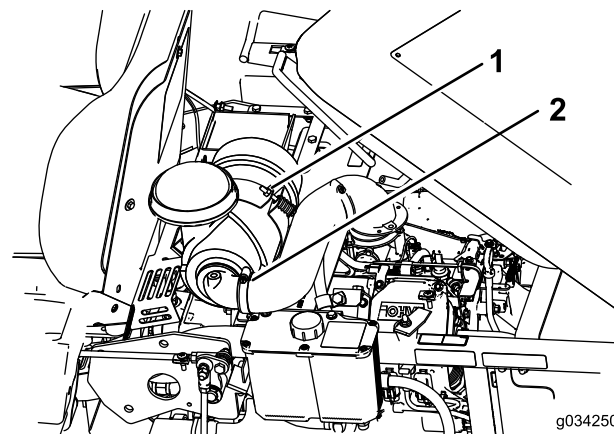

Figure 29
4. Loosen the bolt holding the air cleaner (Figure 29).
5. Loosen the clamp holding the hose and remove the air cleaner (Figure 29).